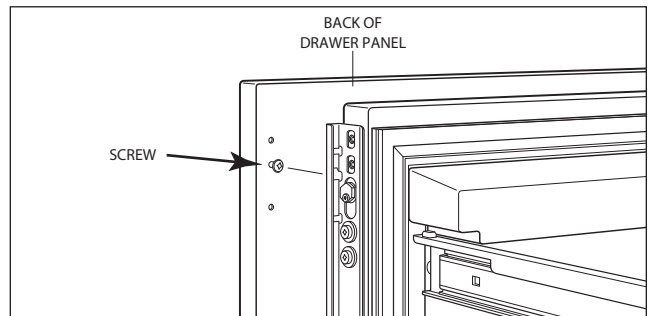

Figure 3.
- 6 Partially insert a #8 x 1/2" screw into the second hole down from the top on one side of the panel, leaving the screw head approximately 3/16" (4mm) proud of panel (See Figure 3).
- 7 Using the partially driven screw, hang the drawer panel on the bracket on the same side of the drawer. This may be easier with drawer partially open (See Figure 3).